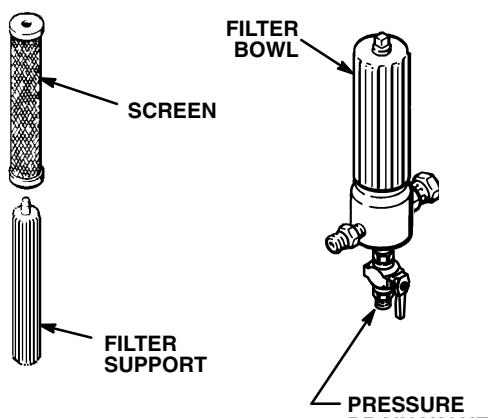

Fig 3
2. Remove the filter bowl and screen; see manual 307-273. Clean the screen separately and install the bowl without the screen to flush it. See Fig 3.